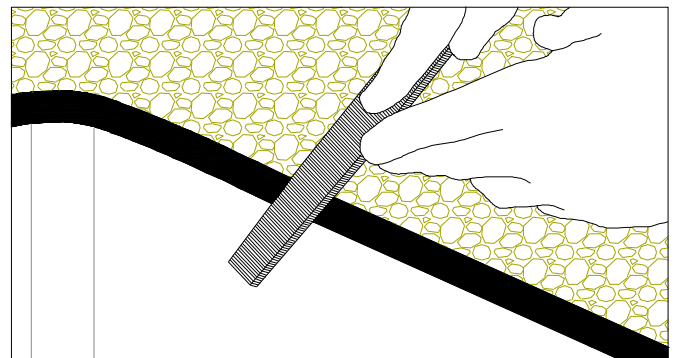

Figure 4C
- Lightly file at a 45° angle. (FIG. 4C)